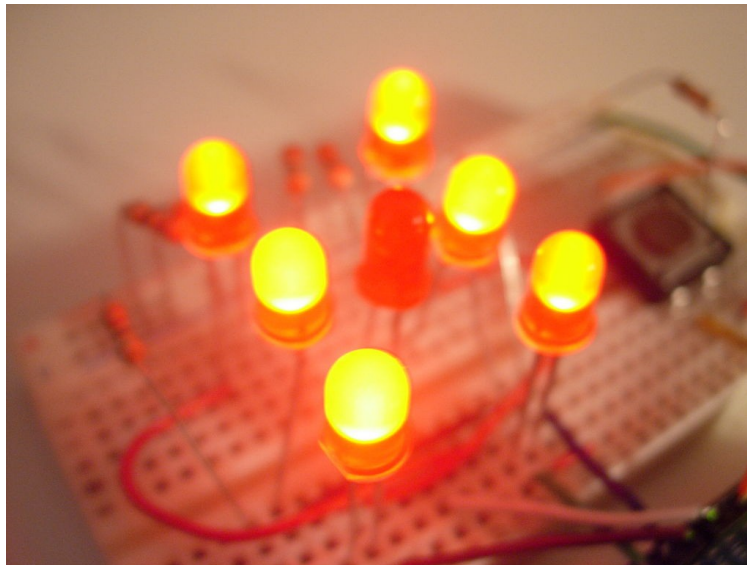

Figure 8 – An LED die
- b) Build a circuit and write a program to create an LED dice (see Figure 8).